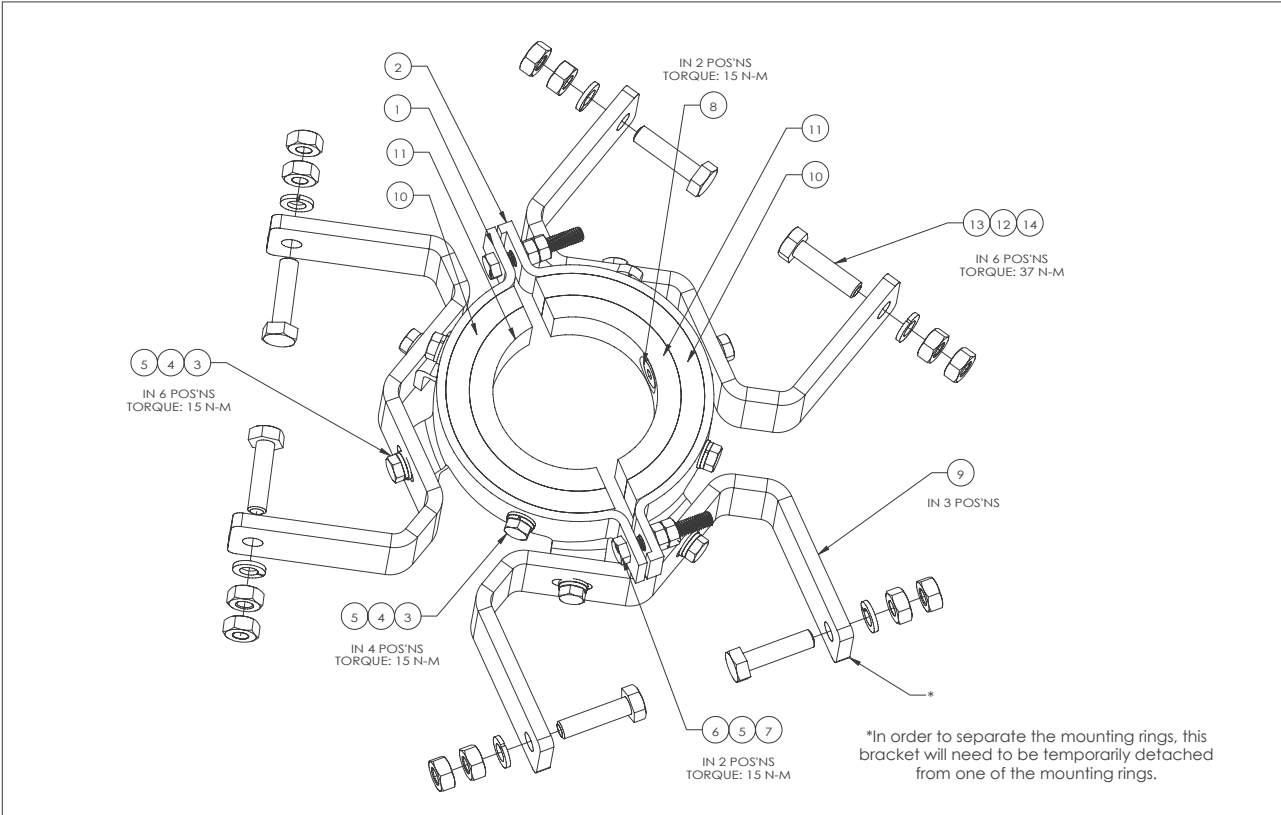

Figure 2. Top APM60-3C-FT Assembly.
2. Separate the mounting rings (Items 1 and 2, Figure 2) to prepare for attaching the assembly to the pole. Note that in order to separate the mounting rings, the bracket noted in Figure 2 will temporarily need to be removed from one of the mounting rings.
4. If the APM60-3C-FT assembly will be mounted to a 114.3mm(4.5") pole, remove the 88.9mm(3.5") pipe adapter (Item 11, Figure 2) and proceed to step 6.
5. If the APM60-3C-FT assembly will be mounted to a 139.7mm(5.5") pole, remove both pipe adapters (Items 10 and 11, Figure 2) and proceed to step 6.